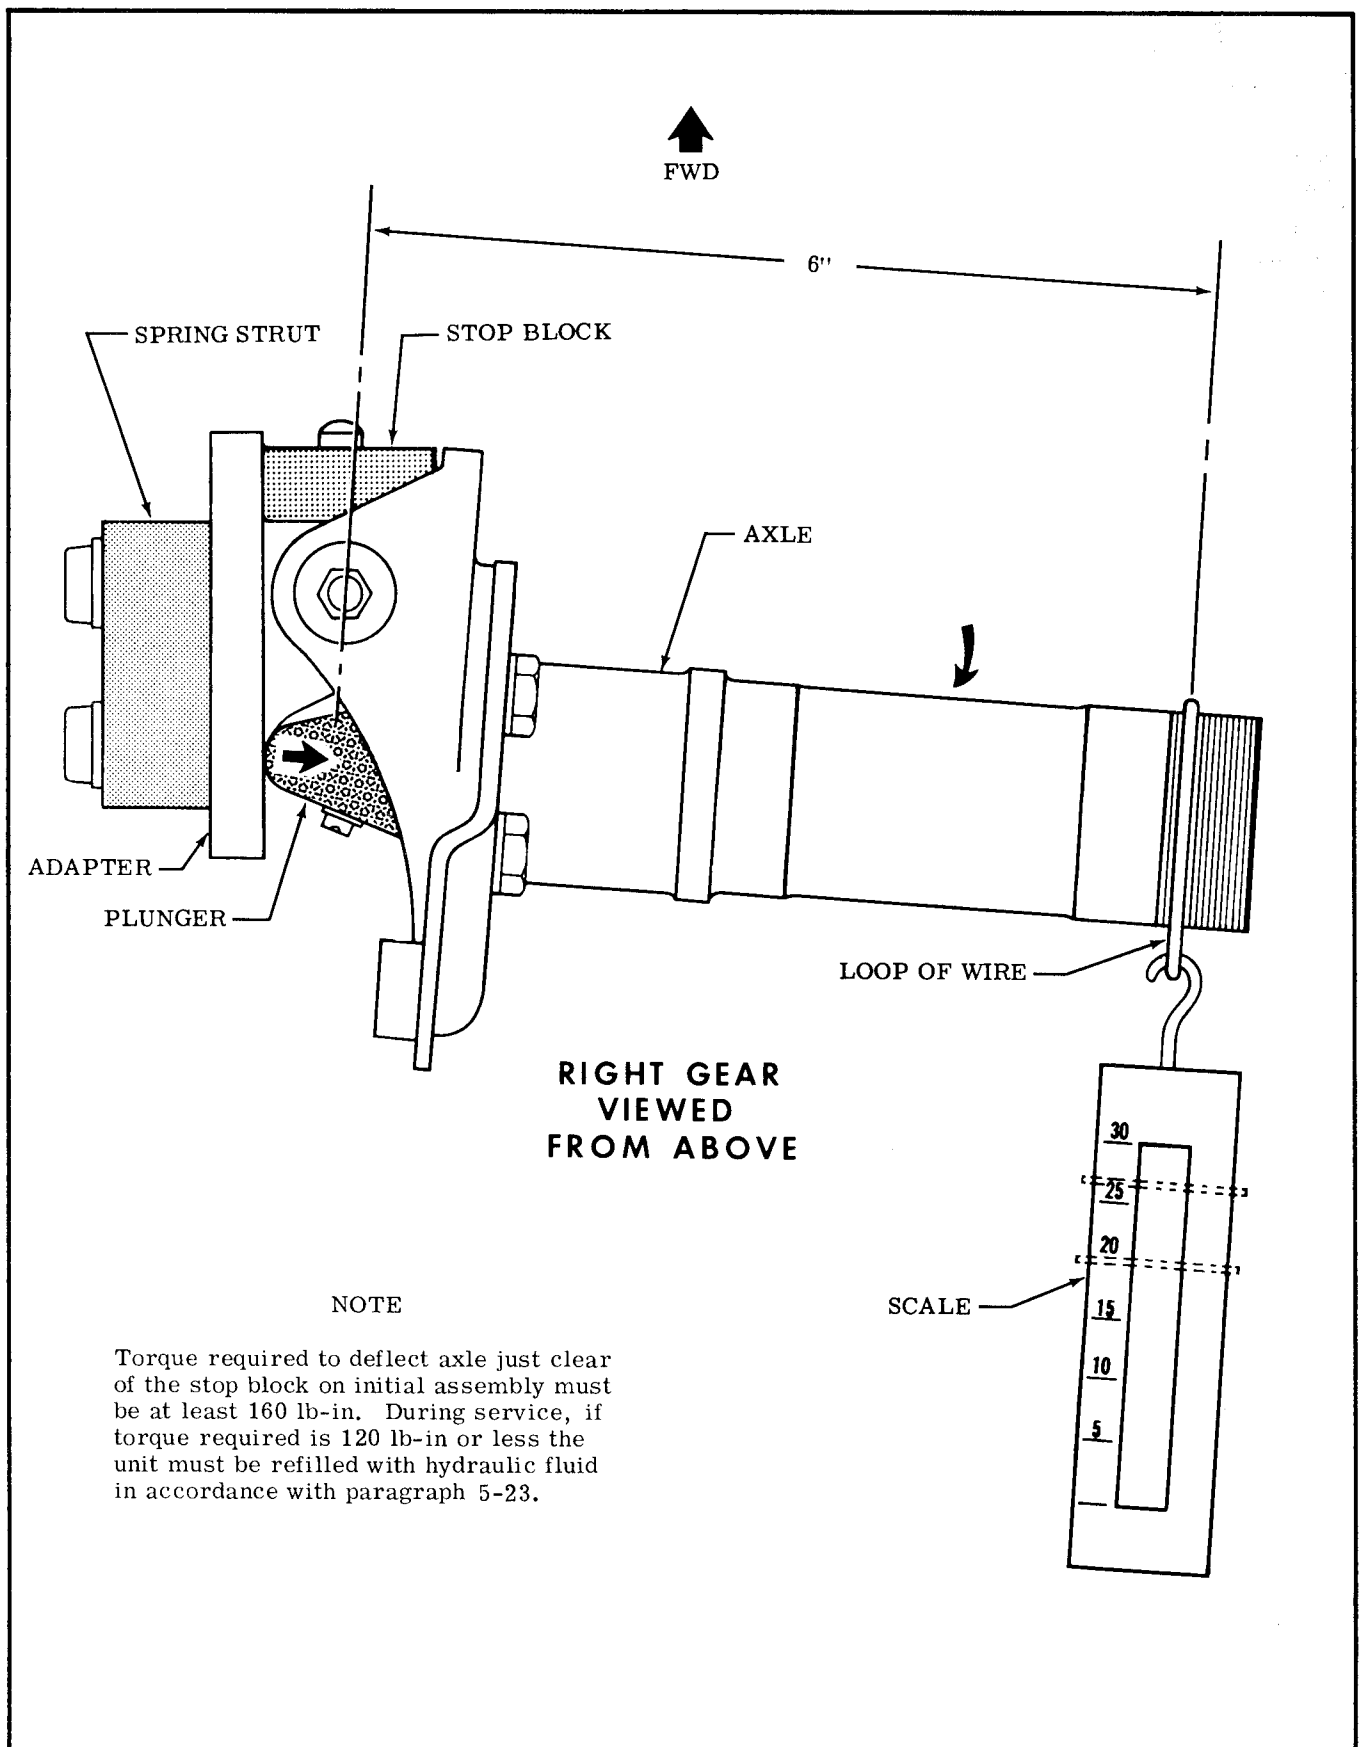

Figure 5-3. Casting Axle Torque Measurement
- a. Measure torque required to deflect axle just clear of stop block as shown in figure 5-3. During assembly, torque required should not be less than 160 lb-in. On aircraft in service, torque required should be more than 120 lb-in. Failure to meet these requirements indicates a weak or broken compression spring or insufficient hydraulic fluid in the unit.
- c. Check that caster travel is 25° minimum. Too much hydraulic fluid will restrict travel, and not enough will cause too little axle torque as measured in figure 5-3.
#### 5-26. CHECKING FLUID QUANTITY ON AIRCRAFT IN SERVICE. (Refer to figure 5-3.)
- b. Remove wheel and measure torque required to deflect axle just clear of stop block, as shown in figure 5-3. If torque required is 120 lb-in. or less, hydraulic fluid must be added.